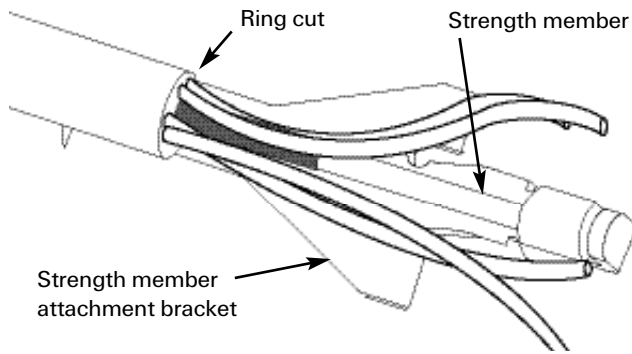

Fig. 10: Loose Buffer Tube with central member (use center prong)
4. If using the **larger** strength member attachment bracket (Fig. 10), trim the strength member to 1-3/4" length from the ring cut.
5. If using the **small** strength member attachment bracket (Fig. 10), trim the strength member to 1-1/4" length from the ring cut.